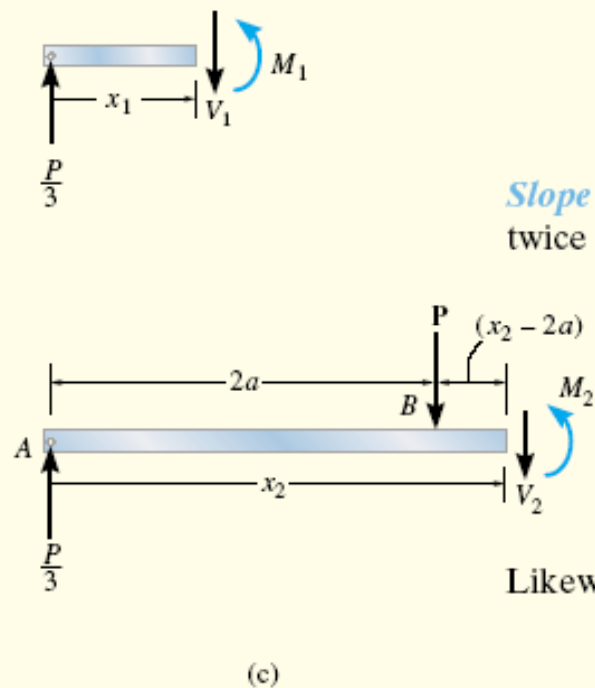

Fig. 12–12
The simply supported beam shown in Fig. 12–11*a* supports the triangular distributed loading. Determine its maximum deflection.  $EI$  is constant.
**Elastic Curve.** Due to symmetry, only one  $x$  coordinate is needed for the solution, in this case  $0 \leq x \leq L/2$ . The beam deflects as shown in Fig. 12–11a. Notice that maximum deflection occurs at the center since the slope is zero at this point.
**Moment Function.** The distributed load acts downward, and therefore, it is positive according to our sign convention. A free-body diagram of the segment on the left is shown in Fig. 12–11b. The equation for the distributed loading is
The simply supported beam shown in Fig. 12–12a is subjected to the concentrated force  $\mathbf{P}$ . Determine the maximum deflection of the beam.  $EI$  is constant.
**Elastic Curve.** The beam deflects as shown in Fig. 12–12*b*. Two coordinates must be used, since the moment becomes discontinuous at  $P$ . Here we will take  $x_1$  and  $x_2$ , having the *same origin* at  $A$ , so that  $0 \leq x_1 < 2a$  and  $2a < x_2 \leq 3a$ .
**Moment Function.** From the free-body diagrams shown in Fig. 12–12*c*,
By inspection of the elastic curve, Fig. 12–12*b*, the maximum deflection occurs at *D*, somewhere within region *AB*. Here the slope must be zero. From Eq. 5,